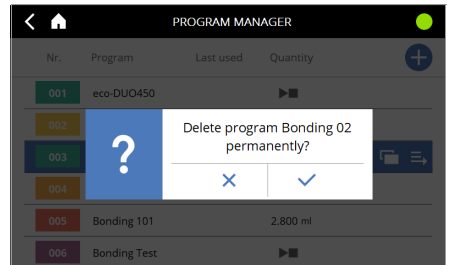

Fig. 75
- ▶ Confirm or cancel the delete operation (Fig. 75)